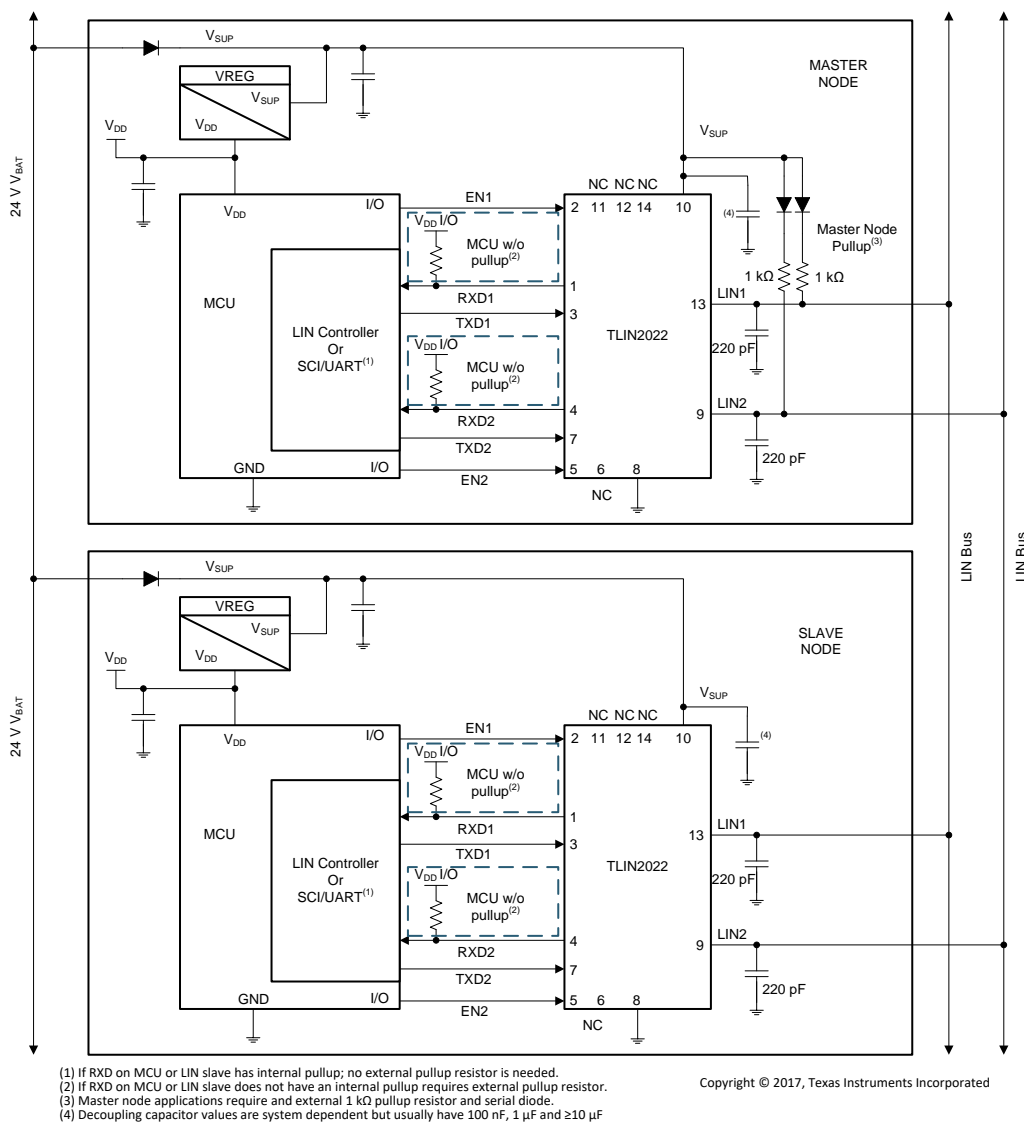

图 30. Typical LIN Bus
- **Pin 6 (NC):** Not Connected.
- **Pin 9, 13 (LIN1/2):** This pin connects to the LIN bus. For slave applications, a 220 pF capacitor to ground is implemented. For maser applications and additional series resistor, a blocking diode should be placed between the LIN pin and the VSUP pin. See 图 30.
- **Pin 11, 12 and 14 (NC):** Not Connected.